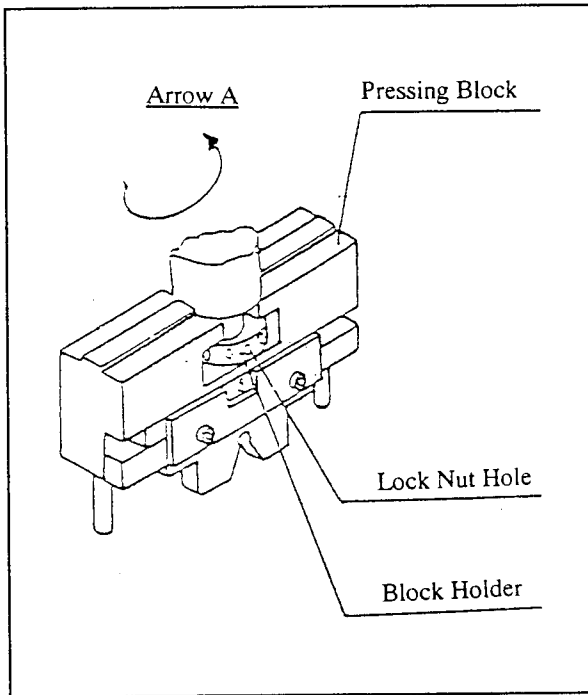

Fig.1
- (1) As shown in Fig.1, fit the protrusion on Pressing Block into the recess on the block holder of hand press.
- (2) Put the M6 Allen wrench (provided with the press) into Lock Nut Hole, then turn it in the counterclockwise direction (indicated by Arrow A) to tighten Pressing Block. Turning the wrench clockwise releases Pressing Block.